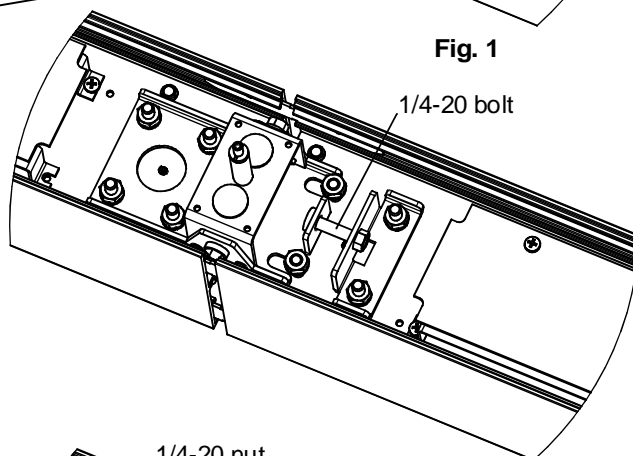

Fig. 2
5. Fasten sections together using alignment plates, connection brackets and supplied 1/4-20 bolt (x1) (Fig. 2).